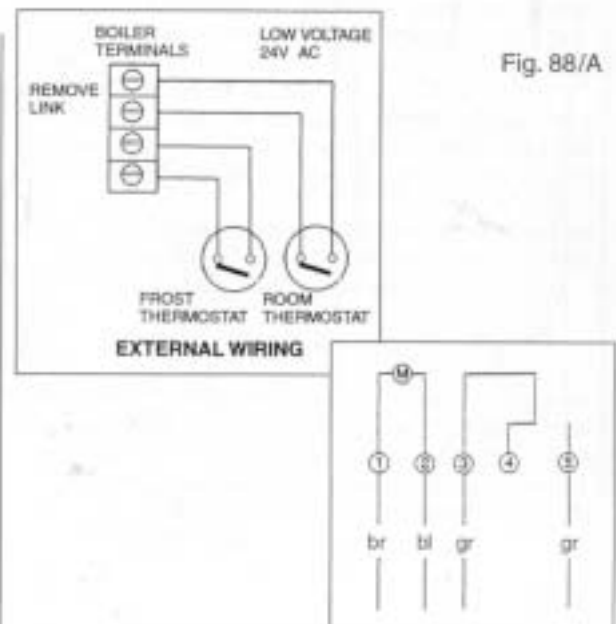

Fig. 89
7.26 TO REMOVE/REPLACE THE DIVERTER VALVE (Fig. 89)